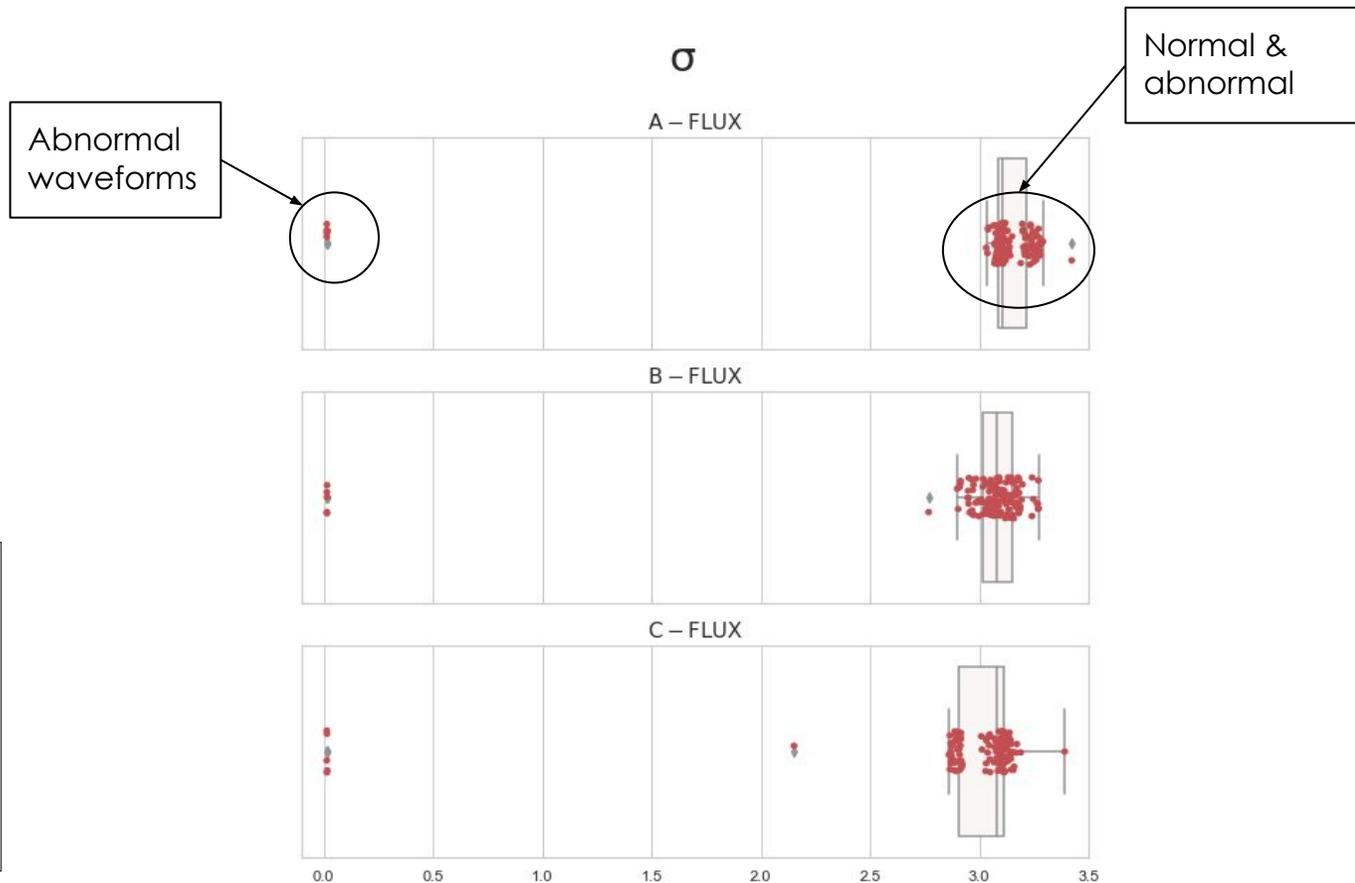

Figure 6. The std distributions of normal & abnormal waveforms.
- Some **abnormal** waveforms can be identified using clustering or simple visualizations as shown in the box plot in Fig 6.